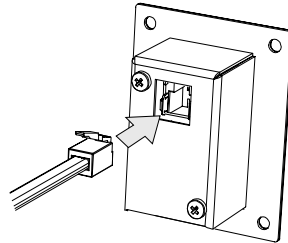

Figure 6 Connecting Cable to the S400 Remote Switch
5. Connect the other end of the telephone cable to the remote switch as shown in Figure 6.